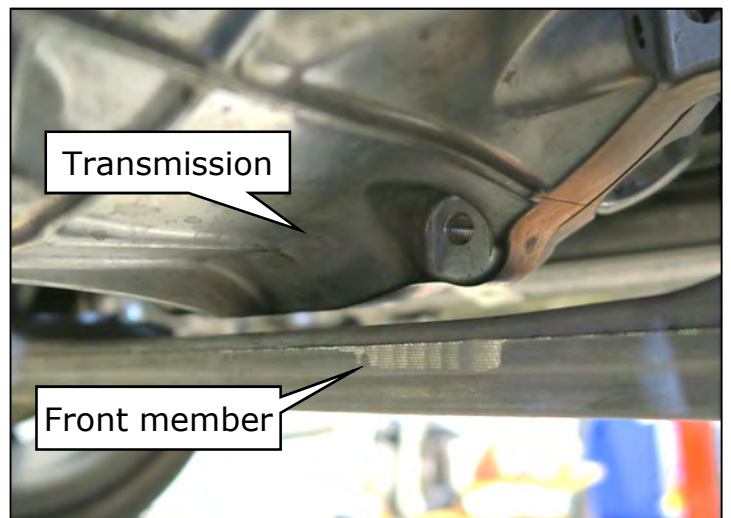

Figure 67
67. Using the transmission jack, raise the transmission until the transmission and engine are not touching the front member. (Figure 67)